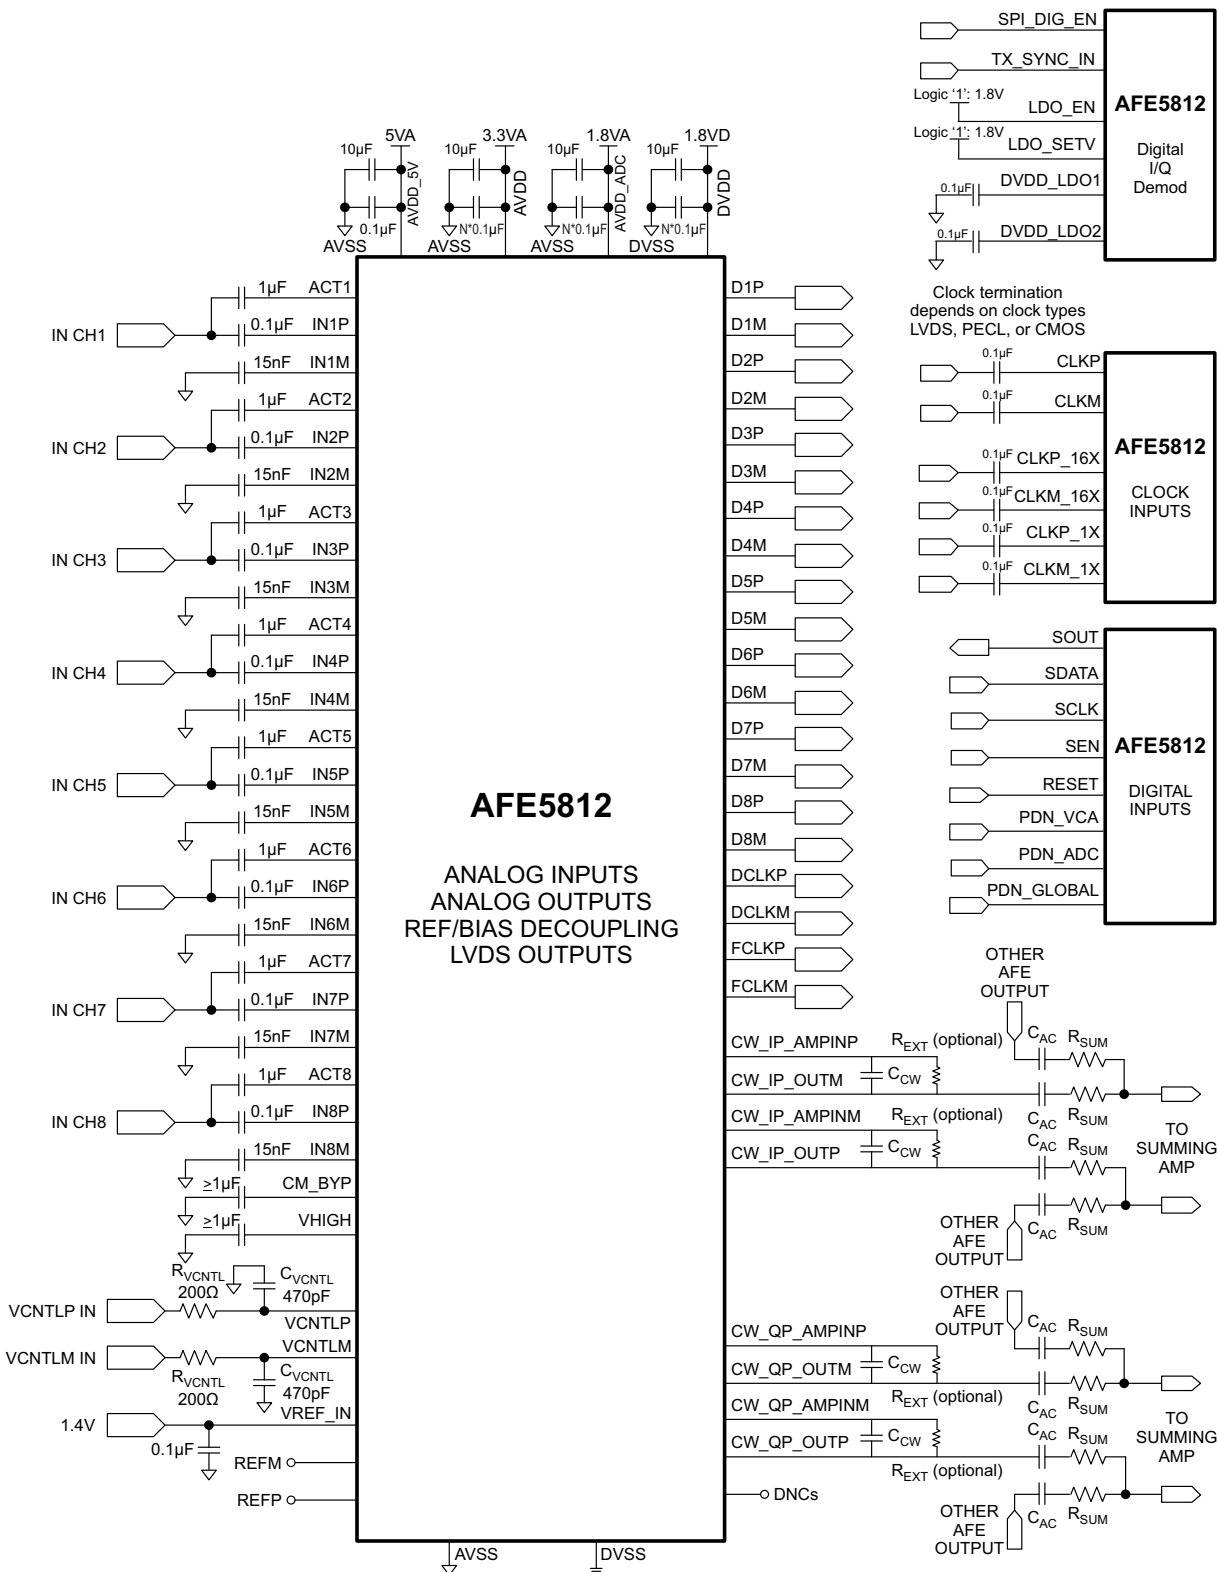

Figure 98. Application Circuit with Internally Generated 1.4V Demod Supply
Figure 98 lists a typical application circuit diagram. The configuration for each block is discussed in the following sections. Table 26 lists companion TI devices that are used to complete the analog signal chain in a system.
The device includes an integrated LNA and VCAT (which use the gain that can be changed with enough time to handle both near- and far-field systems), a low-pass antialiasing filter to limit the noise bandwidth, an ADC with high SNR performance, and a CW mixer. Figure 98 illustrates an application circuit of the device.
4. Select different passive components for different device pins as shown in Figure 98.